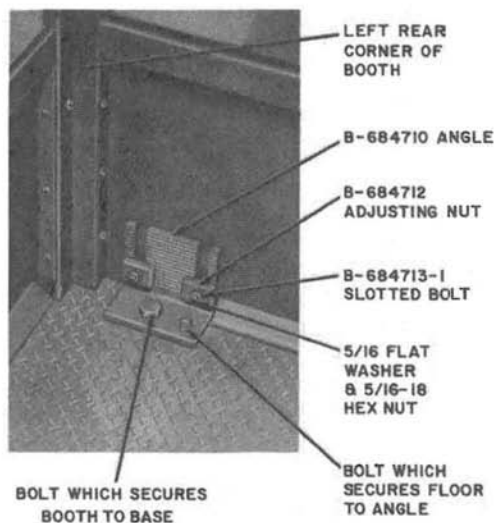

Fig. 7—Booth Anchoring Bracket
- 2.20 Four adjustable brackets (Fig. 7) are provided to permit leveling and anchoring.
- (a) If a KS-19580, List 28 foundation template is used, remove insert plugs from template and secure anchor brackets (Fig. 7) of booth to template using four 3/8-16 by 1-1/4 hex head bolts, four 3/8-inch lockwashers, and four 3/8-inch flatwashers.
- (1) Mark the locations for four mounting holes.
- (2) Drill the four holes to accept machine bolt anchors for 3/8-16 by 1-1/4 bolts. See Section on Machine Bolt Anchors.
- (3) Install the fasteners.
- (4) Secure anchor brackets of booth to fasteners using four 3/8-16 by 1-1/4 hex head bolts, four 3/8-inch lockwashers, and four 3/8-inch flatwashers.
- (1) Mark the location for four mounting holes.
- (2) Drill four lead holes to accommodate 5/16 by 2-1/2 inch lag screws.
- (3) Secure booth to floor using the four 5/16 by 2-1/2 inch lag screws, four 5/16-inch lockwashers, and four 5/16-inch flatwashers.
- (d) Adjust the anchor brackets (Fig. 7) if necessary, and ensure that the booth is level.